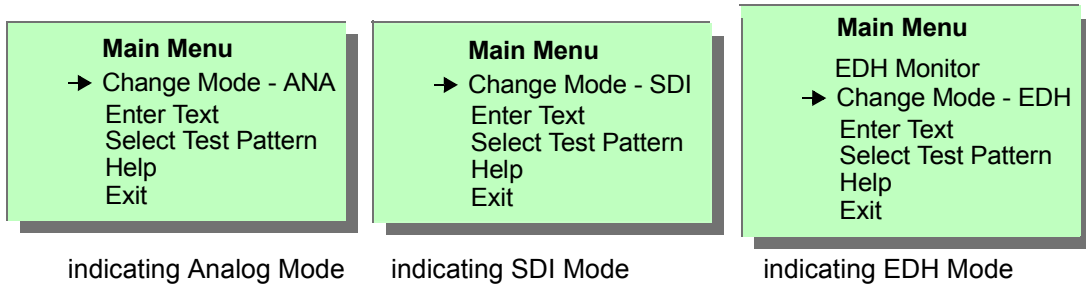

Figure 4-7. Main Menu Mode Indications
- Connect a video monitor to the decoder and set the MONITOR SOURCE SELECT switch to TEST VIDEO (page 4-45). With the monitor, you can see which mode has been selected and exit from the menus appropriately. Figure 4-7 shows what the Main Menu test screen looks like in the various modes.